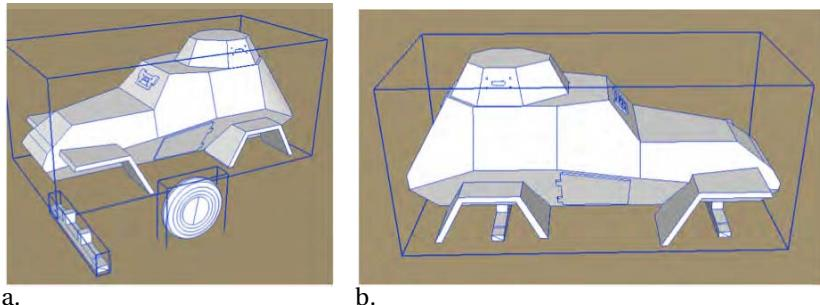

Figure 10–24. Chassis and wheel of BA-64
2. Then select File ▶ Import, browse to the Chapter 8 folder, and import the wheel, chassis, and axle. You will have to import each part separately (Figure 10–24).
3. Once the parts of the armored car are imported into SketchUp, make a copy of the axle, place one in front and one in the back, and group them with the body of the car (Figure 10–24b).